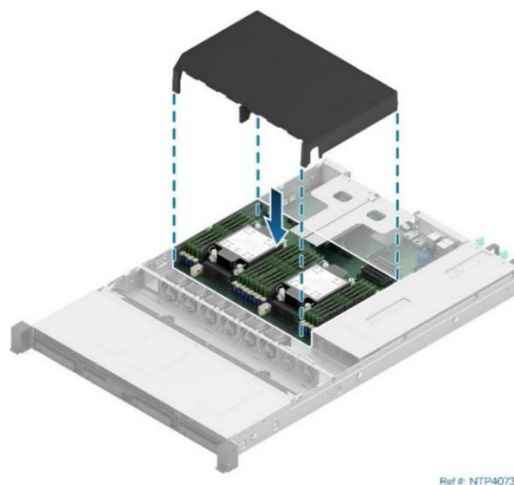

Figure 59. Air Duct Installation
2. Install the air duct (see Figure 59).